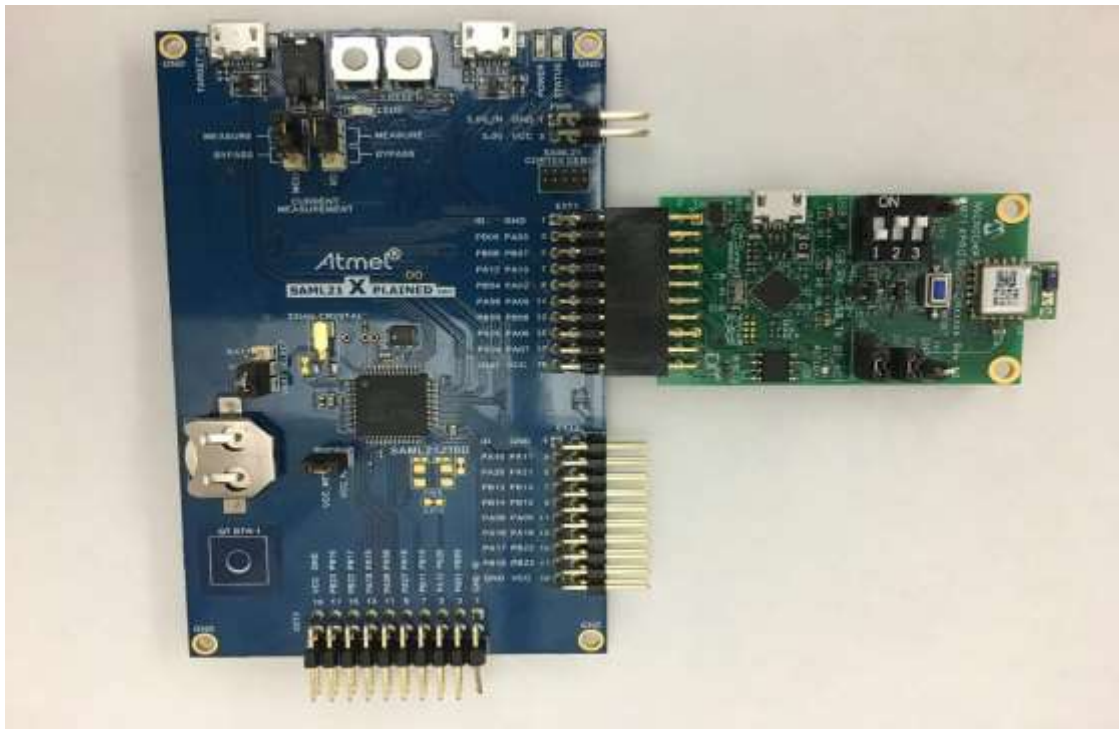

Figure 1: SAML21 Xplained Pro with BM71-XPro
1. Plug in the BM71-XPro board into EXT1 of SAML21 Xplained Pro board as shown in Figure 1.